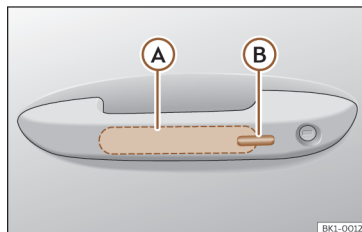

Fig. 77 Door handle: sensor surfaces.
>>> **Fig. 77**
- Touch the sensor surface (B) >>> **Fig. 77** on the outside of the door handle. All turn signals flash once.
- Within 5 seconds, touch the sensor on the outside of the door handle once >>> **Fig. 77** **B**. Do not grip the handle while doing so. This temporarily deactivates the Keyless Access system.